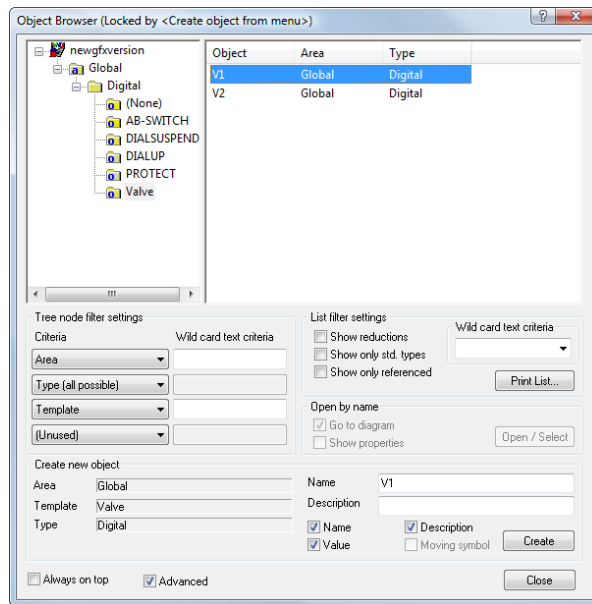

Figure 3.90 The usual **Object Browser** dialog box appears when we define a command field.
3. Move the bar display over the tank and resize it so that it fits within the tank as shown in Figure 3.90, then position the name and the value.